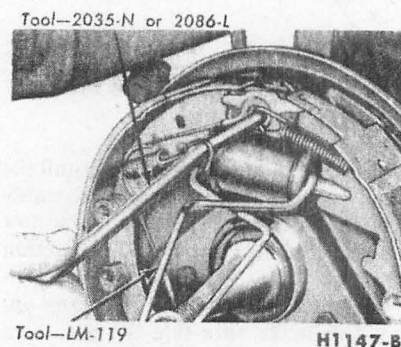

FIG. 13—Typical Retracting Spring Installation
5. Install the primary shoe to anchor (short) spring with the tool shown in Fig. 13.
7. Install the secondary shoe to anchor (long) spring (Fig. 13).
12. Pull the adjuster lever, cable and automatic adjuster spring down and toward the rear to engage the pivot hook in the large hole in the secondary shoe web (Fig. 13).